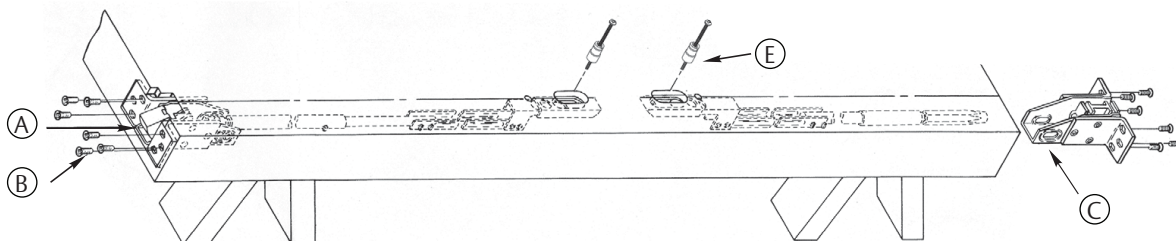

Figure 14
1. Slide rod assemblies into door. (Figure 14-A)
2. Attach top latch with six (6) #10-24 X 1/2" PFHMS. (Figure 14-B)
3. Install bottom bolt case with six (6) #10-24 X 1/2" PFHMS. (Figure 14-C)
6. Install two (2) yoke pin assemblies into arm and bracket assemblies. (Figure 14-E)